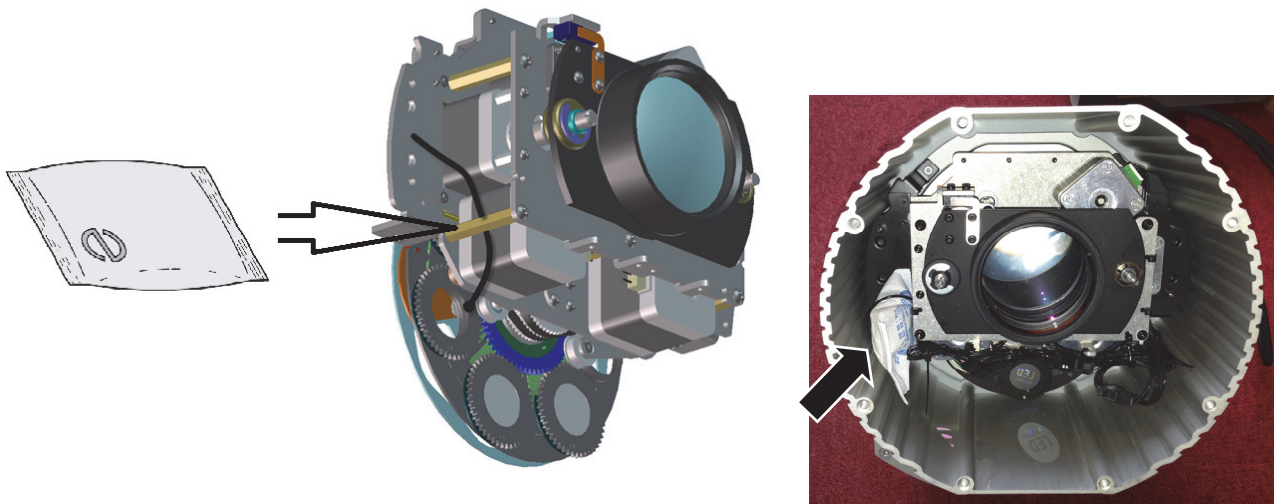

Figure 2. Fastening an anti-humidity sachet to the effects module
7. Remove a new anti-humidity sachet from its sealed aluminum bag and fasten it to the effects module with a cable tie as shown in Figure 2. Make sure that it will not touch the rotating gobo wheel or other moving parts.